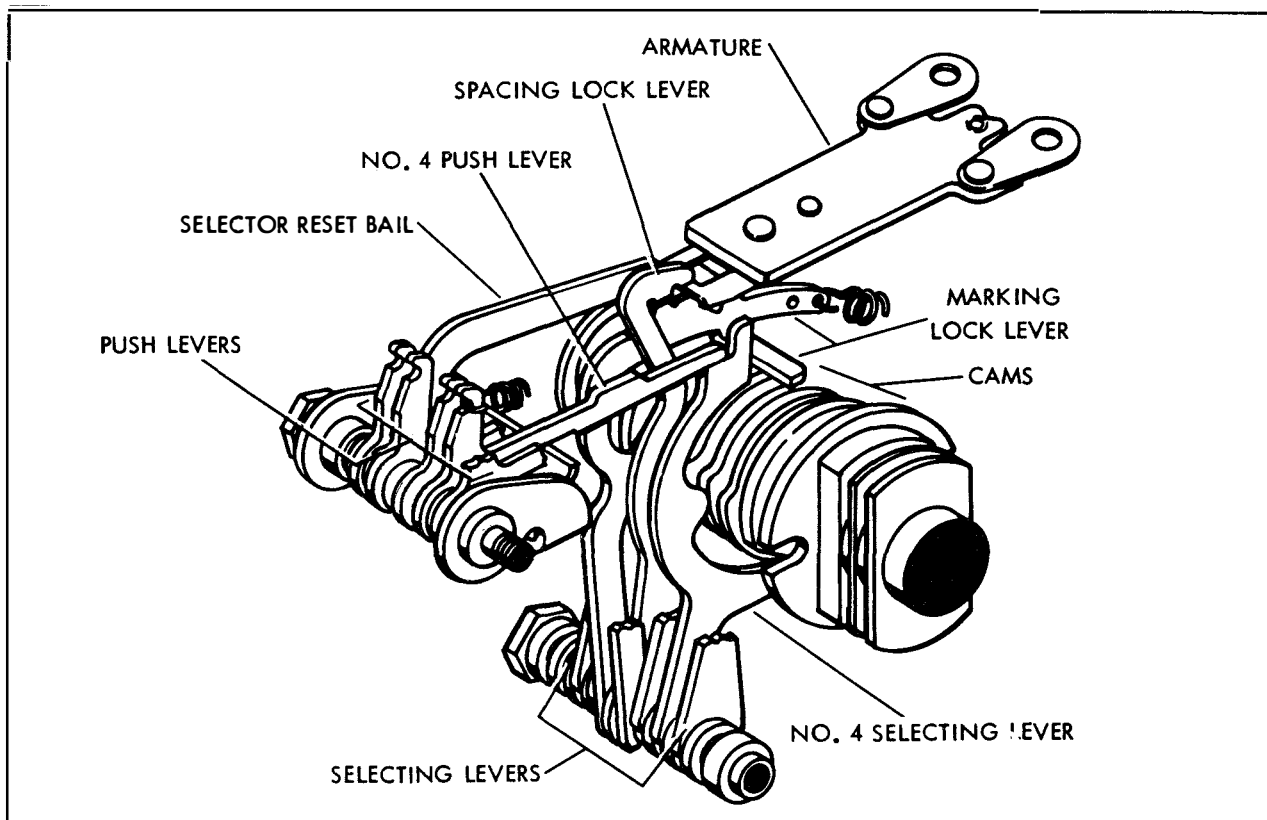

FIGURE 6-2. SELECTING MECHANISM
##### (1) Selecting Mechanism (Figure 6-2)
signal transition is due. Extensions on the marking lock lever prevent the selector levers from following their cams (Figure 6-2). When a marking element of the signal is received, the spacing lock lever is blocked by the end of the armature and the marking lock lever swings to the right below the armature to lock it in the marking position until the next signal transition is due. During this marking condition, the selector levers are not blocked by the marking lock lever extensions but are permitted to move against their respective cams. The selecting lever that is opposite the indent in its cam, while